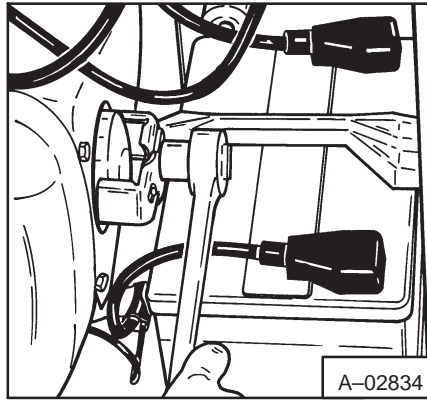
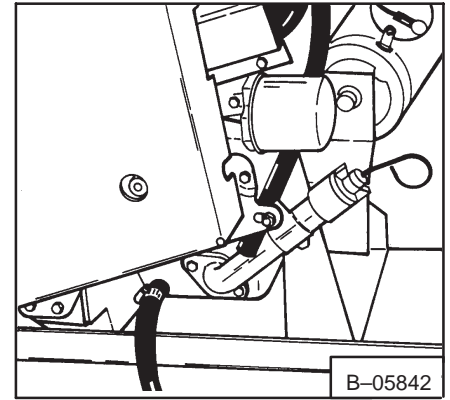

Fig. 1-21 Engine Oil Filter (540)
Fig. 1-22 Engine Oil Filter (543)
1. Remove the oil filter. (Fig. 1-21 or Fig. 1-22.)